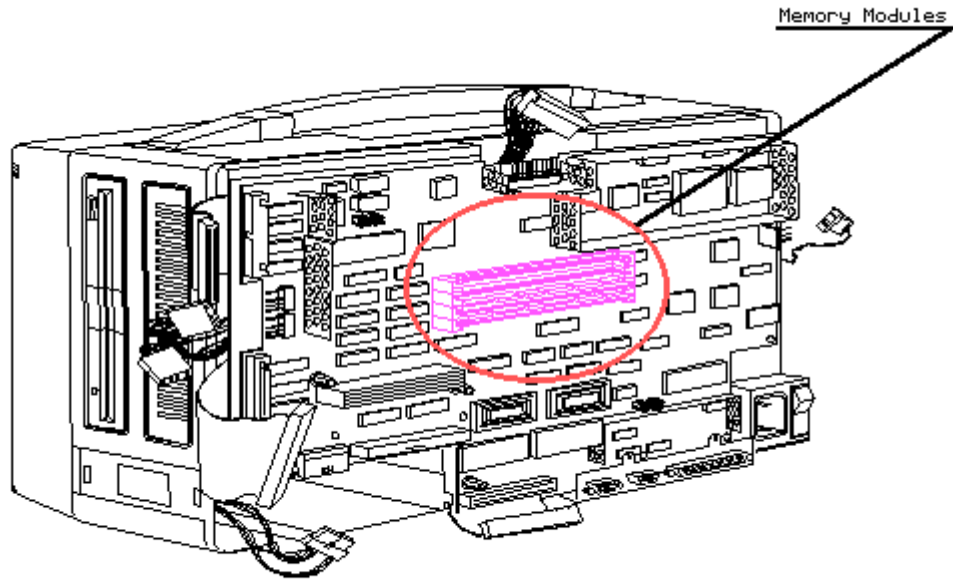

Figure 8-25. Memory Module Location on the System Board
4. Locate the memory module that is to be replaced (Figure 8-25).